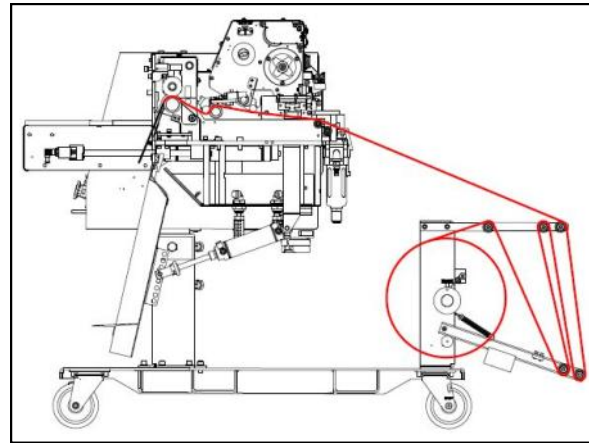

Figure 31A. Web Decal & Jog Button.
6. Manually thread the film through the series of rollers. A Web Threading decal showing the film thread path through the machine is located on the side of the **Max Series bagger**. **Figure 31A.**
8. Jog the film forward using the Jog Pushbutton (Figure 31A) until a perforation is located between the electric eye and pressure bar.